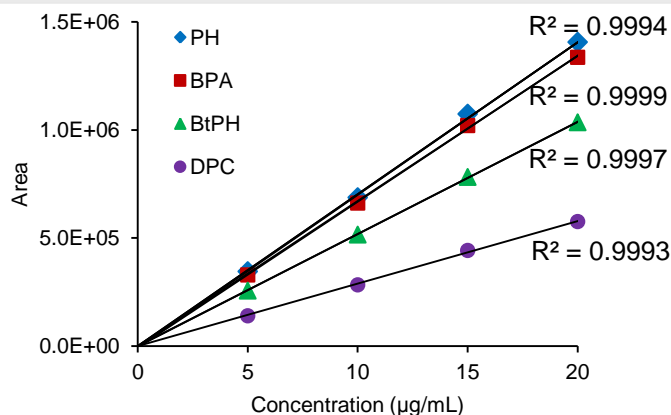

Figure 2 Calibration Curve
- ✓ The calibration curves of BPA, PH, BtPH, and DPC (5, 10, 15, 20, 25 µg/mL) showed a correlation coefficient (R²) of 0.9993 or higher, indicating a good linearity (Figure 2).